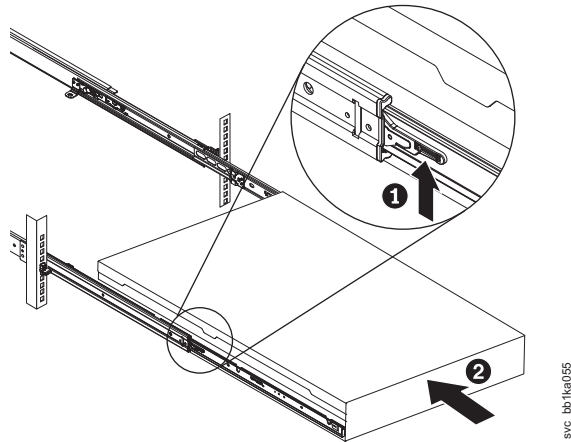

Figure 132. Raising the locking levers of the slide rails of the rack
12. Lift the locking levers (**1** in Figure 132 on page 156) on the slide rails and push the server **2** all the way into the rack until it clicks into place.